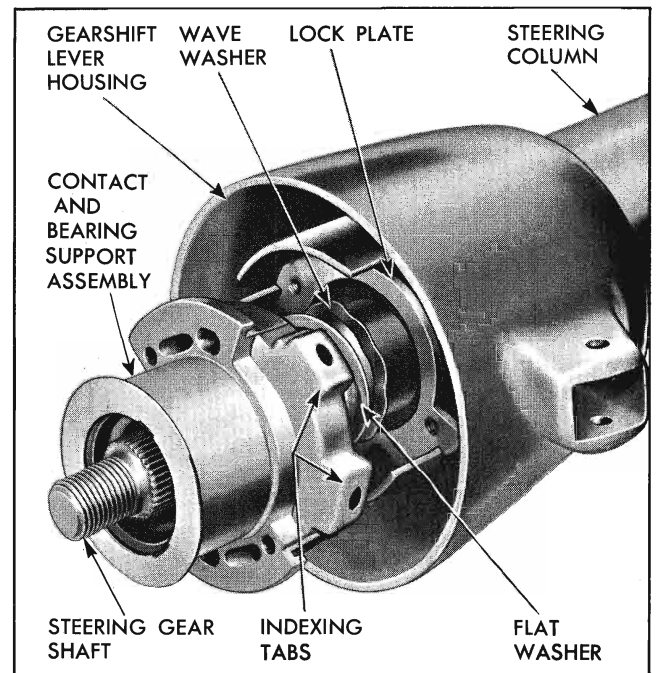

Fig. 9-23 Installing Bearing Support Assembly
19. Install new sleeve in inside diameter of upper bearing, flanged side out, and position upper bearing support over shifter tube, indexing two tabs of support in cutouts at upper end of steering column (Fig. 9-23). The bearing support will properly center shifter tube at upper end of column.